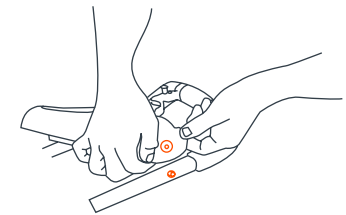

Fig. 9
- 9) • To attach the parent tray, align the fittings on the ends of the parent tray with the fittings on the outsides of the handle. Hook the hole in the parent tray. Pull outward on the opposite end while pushing down on the tray until locked onto the stroller handle. Please be careful not to pinch your fingers when installing the parent tray (Fig. 9). To remove the parent tray, pull outward on one end of the tray while lifting upward.